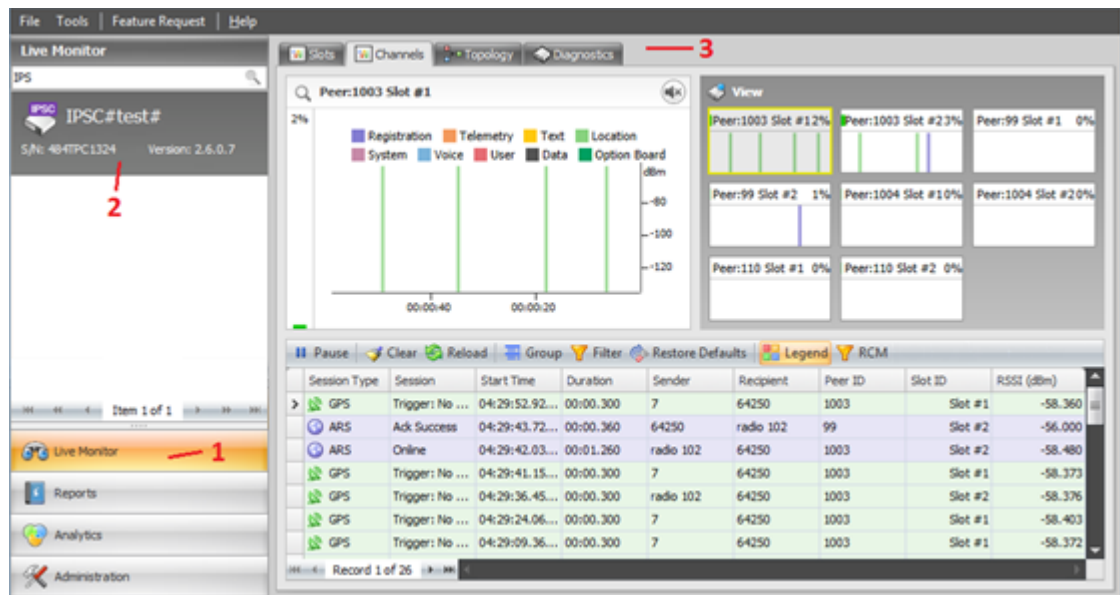

Figure 32: Monitoring MOTOTRBO systems
- In the lower-left pane, click **Live Monitor** (Figure 32, step 1) and then click the tab with the system name (Figure 32, step 2).
- In the right pane, click the respective tab (Figure 32, step 3):